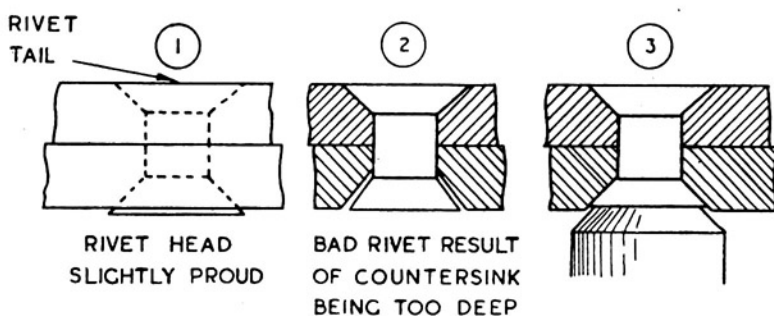

Fig. 93
The fitter may note that the shape of the rivet head on both sides of the plate is determined by conditions. For instance, the steel rivets holding the plates on a ship's deck are countersunk on the deck side where people walk, but below, on the underside of the plate, the rivets may have cup heads or any shape that is convenient. A countersunk rivet is shown at Fig. 93.
When it is absolutely imperative that the rivet head be below the surface of the work, or if by accident a hole is countersunk too deeply, use a supporting dolly as shown at (3), Fig. 93. Dollies having a recess of the same shape as the rivet head are only necessary to preserve the shape of the head.